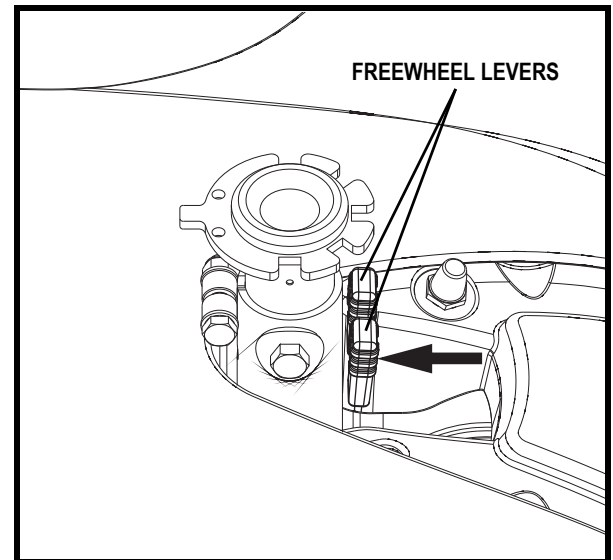

Figure 5. Freewheel Mode (Drive Disengaged)
3. Pull both levers rearward toward the seat post to disengage the drive motors (freewheel mode). See figure 5.